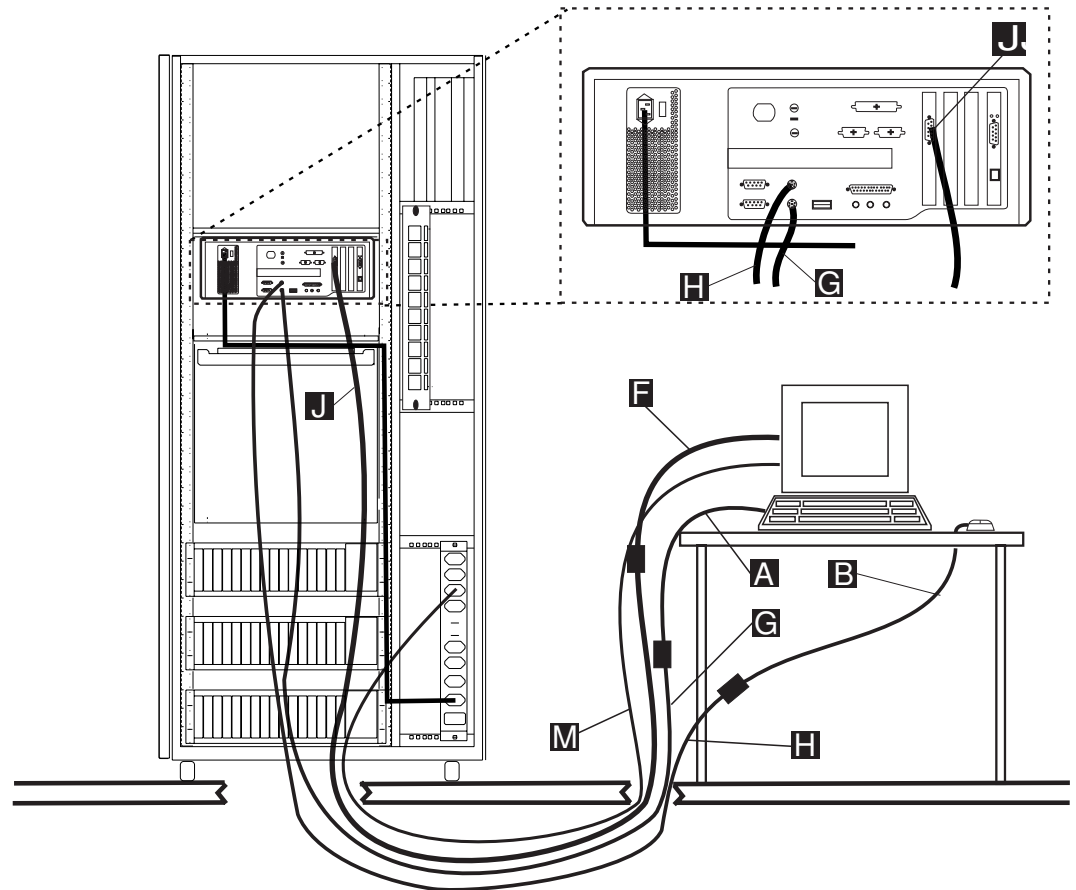

Figure 1-11. Installing the Display and Keyboard on a Table
Note: If you are installing the keyboard and the mouse outside of the controller expansion, use the keyboard extender cable PN 10K8632 **G** and the mouse extender cable PN 10K8633 **H** (see Figure 1-11 on page 1-15).
Note: If you are installing the display outside of the controller expansion, use the extender cable PN 59G1270 (see Figure 1-11 on page 1-15, reference **J**).
20. Connect the display power cable **M** to the ac outlet distribution box (refer to Figure 1-11 on page 1-15). Secure all the cables using tie clamps along the frame.